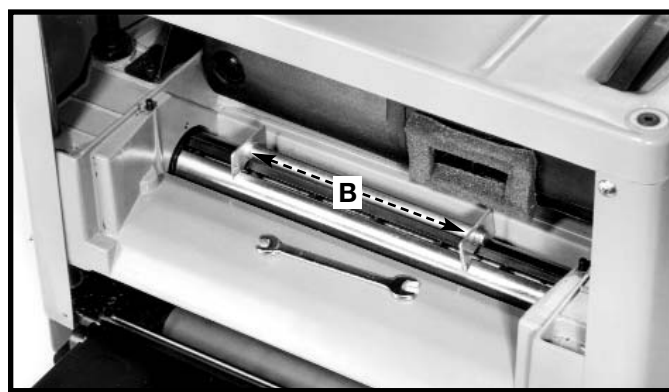
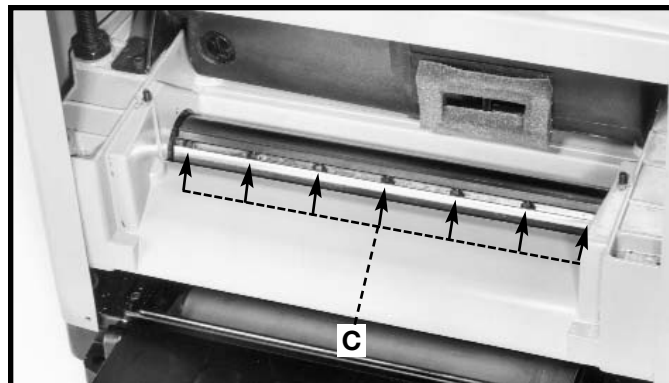
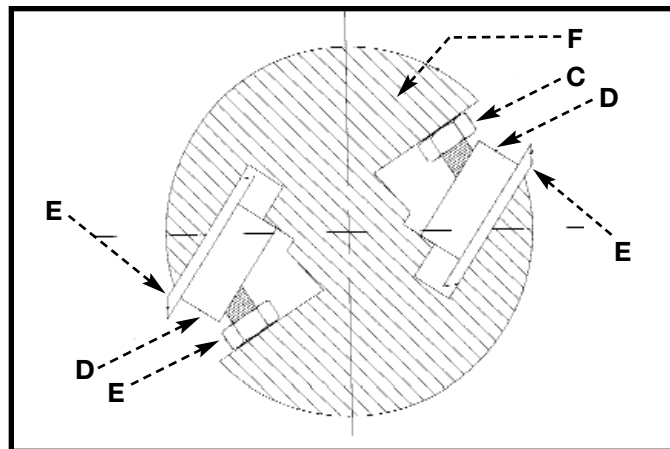

Fig. 20
Fig. 21
Fig. 22
3. Carefully place knife setting gauge (B) Fig. 20 on the cutterhead so that the rounded sections are directly over the knife. When adjusted correctly, the knife should just contact the bottom of the center portion at each end of the gauge (B). Check the other knife in the same manner.
4. If an adjustment to one or both knives is necessary, slightly loosen the seven locking screws (C) Fig. 21. Turn the screws **CLOCKWISE** into the knife locking bar just enough to relieve stress in the cutterhead and not disturb the knife setting.
5. With the setting gauge (B) Fig. 20 in place, apply pressure to the knife. Turn the seven knife-locking screws (C) Fig. 21 **CLOCKWISE** until the knife-locking bar is loose. The lift springs will automatically raise the knife until it comes in contact with gauge (B) Fig. 20. Snug the knife-locking bar by lightly turning the seven locking screws (C) Fig. 21 **COUNTERCLOCKWISE**.
7. After both knives are positioned in the cutterhead, turn each of the seven screws, six of which are shown at (C) Fig. 21 **COUNTERCLOCKWISE** until the knife is secure in the cutterhead.
⚠ WARNING Ensure that the knife-locking bar (D) Fig. 22 is flush against the knives (E) before securing the knife-locking screws. (C).
3. Carefully place the knife-setting gauge (B) Fig. 20 on the cutterhead so that the rounded sections are directly over the knife.
4. Loosen the knife locking bar by turning the seven knife locking screws (C) Fig. 21 **CLOCKWISE**, and carefully remove the knife-locking bar (D) Fig. 22, knife (E), and springs (not shown), located under the knife.
7. Carefully replace the springs (not shown), knives (E) Fig. 22, and knife-locking bars (D) in both slots of cutterhead (F).
⚠ CAUTION When replacing the knife-locking bars (D) against the knives (E) Fig. 22, position the screws (C) at the top of the knife-locking bars (D). Angle them downward to hold the knives (E) properly inside the cutterhead slots. Loosely tighten the knife-locking screws, one of which is shown at (C) counter-clockwise for further adjustment.
10. When adjustment is complete, tighten the screws (C) Fig. 21.